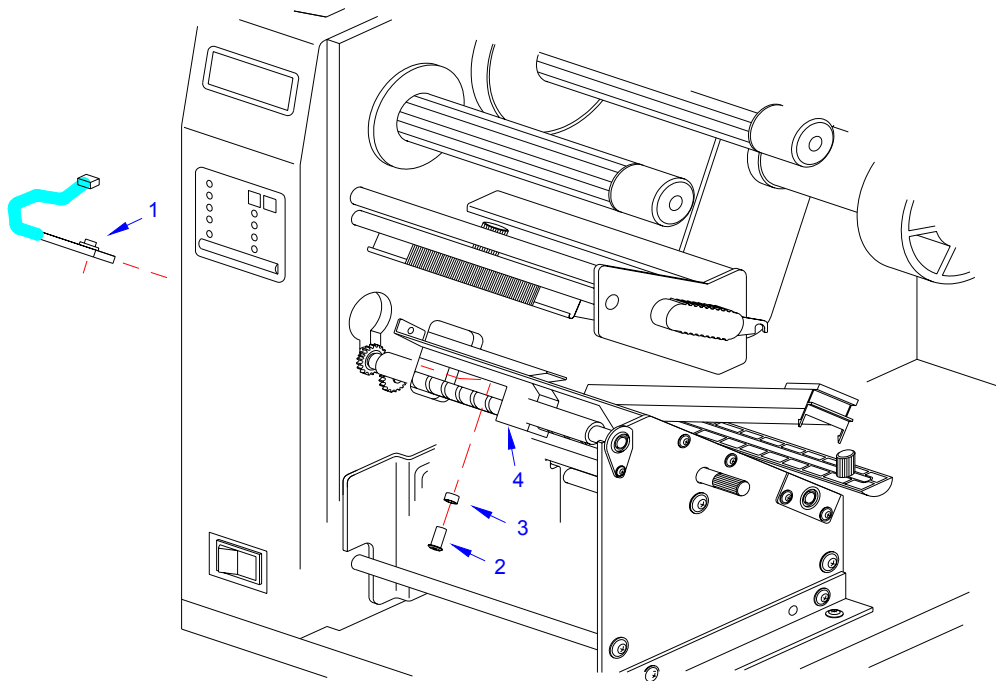

Figure 7-17, Label Position Sensor Replacement
- 3 Remove ribbon and media to provide free access to label position sensor (1, Figure 7-17).